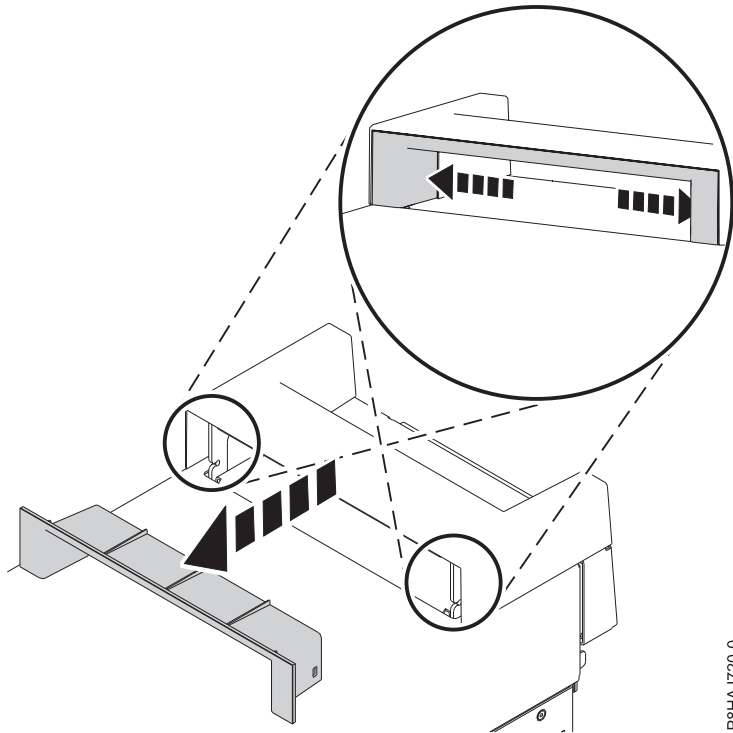

Figure 17. Removing the piece within the handle cover on an 8286-41A stand-alone system
1. Remove the plastic piece within the interior of the handle cover by pushing the latches on the inside firmly and sliding it out. See Figure 17 on page 36.